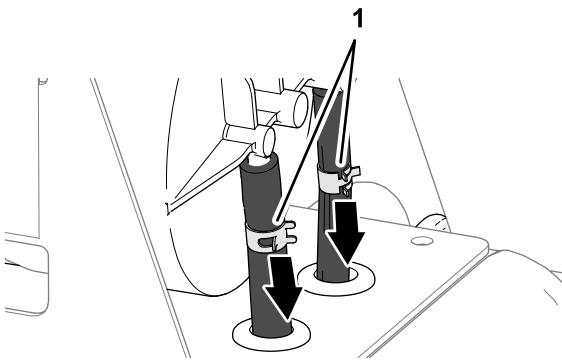

Figure 79
3. Loosen the 2 hose clamps that secure the hoses to the fittings of the carbon canister (Figure 79).